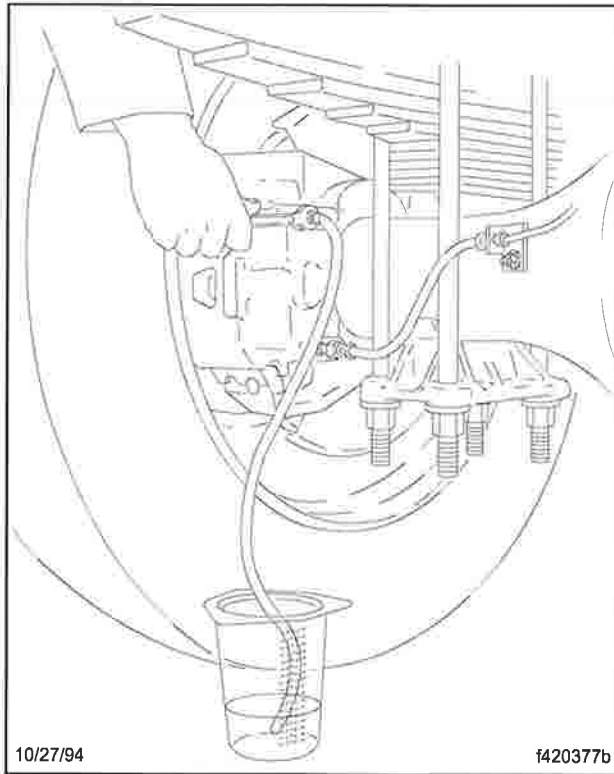
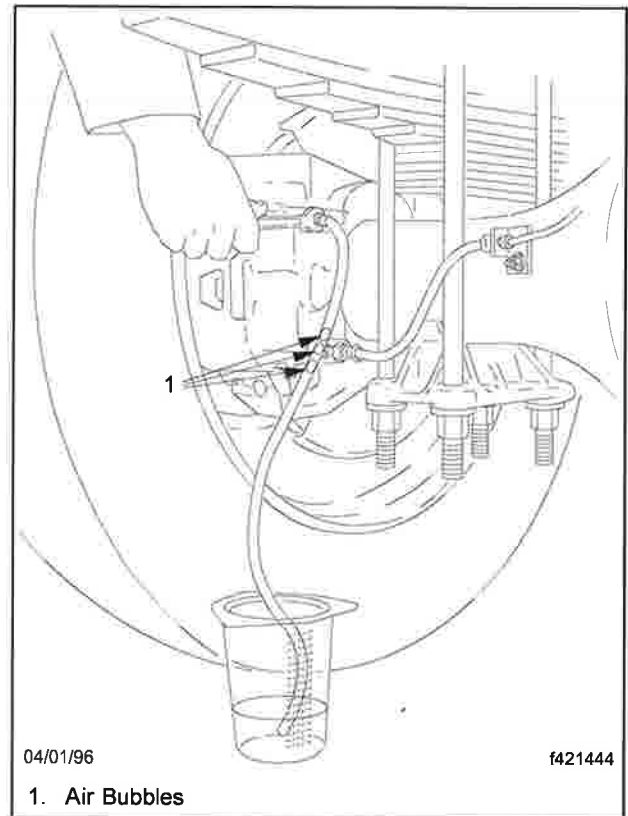

Fig. 15, Bleeding the Connections at the Rear Wheel Calipers
Fig. 16, Loosening the Bleeder Fitting Until the Air Bubbles are Gone
- 2.1 Place a wrench on the bleeder fitting at the caliper, then attach a length of clear tubing to the bleeder fitting. Make sure the tube fits snugly. Submerge the tubing in a container of clean brake fluid. See **Fig. 15**.
- 2.2 Loosen the bleeder fitting about 3/4 turn, and let the brake fluid flow out of the fitting until it is free of air bubbles. See **Fig. 15** and **Fig. 16**. Then tighten the fitting firmly.
- 4.1 Place a wrench on the bleeder fitting at the caliper, then attach a length of clear tubing to the bleeder fitting. Make sure the tube fits snugly. Submerge the tubing into a container of clean brake fluid. See **Fig. 15**.
- 4.2 Loosen the bleeder fitting about 3/4 turn, and let the brake fluid flow out of the fitting until it is free of air bubbles. See **Fig. 15** and **Fig. 16**. Then tighten the fitting firmly.
- 2.1 Place a wrench on the bleeder fitting at the caliper, then attach a length of clear tubing to the bleeder fitting. Make sure the tube fits snugly. Submerge the tubing in a container of clean brake fluid. See Fig. 15.
- 2.4 Release the brake pedal. Check the fluid in the tube. If air bubbles are present, repeat the steps as required until the fluid in the tube is completely free of air bubbles, as shown in Fig. 15 and Fig. 16.